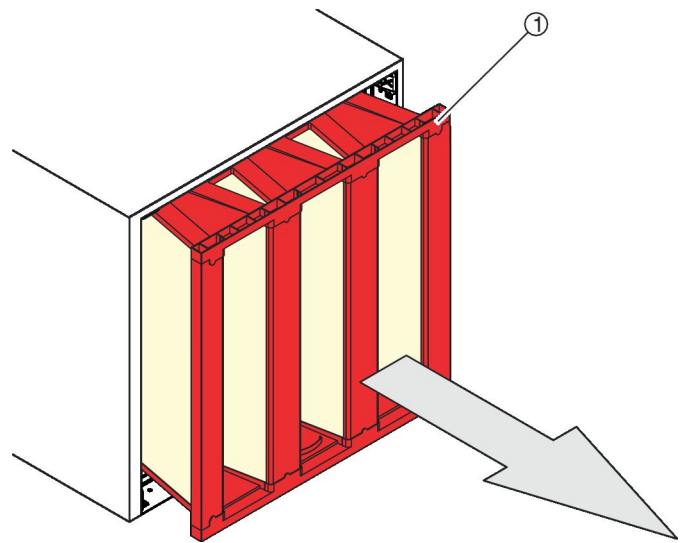

Fig. 54: Removing the filter element
4. Pull out the filter element (Fig. 54 /1).